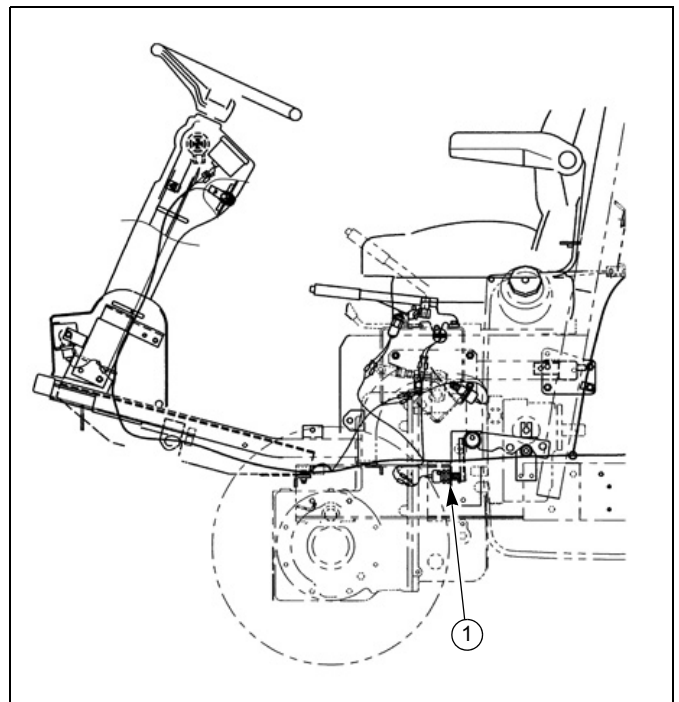

Figure 2-16
16. Disconnect the wire connector from the HST neutral switch ①. Figure 2-16